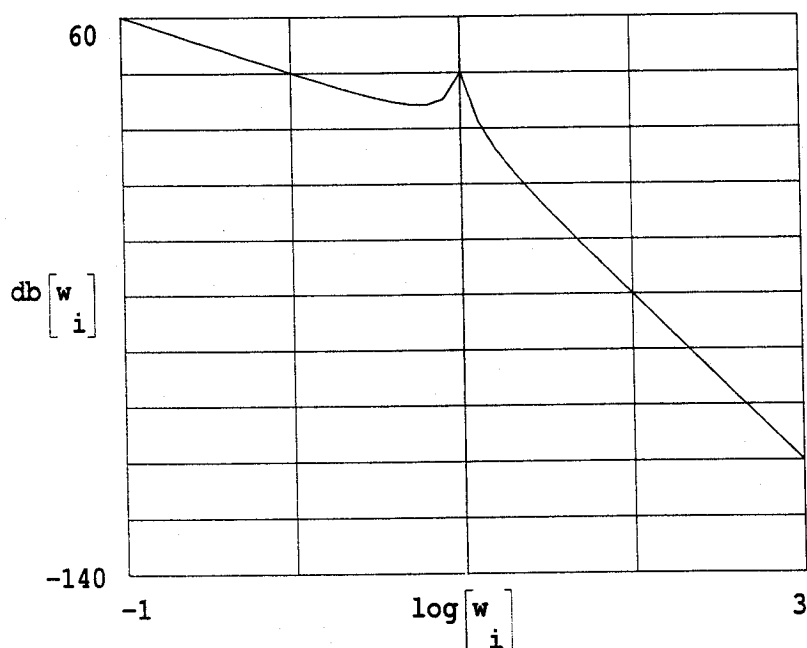

FIGURE 4
- 4(a) Describe Bode's asymptotic method for determining the frequency response of a control system. What approximations are used? What is meant by the term "corner frequency". Explain also how phase and gain margin can be read from the Bode plot. (10)
- (b) The graph shown in Figure 4 is a Bode magnitude response for a particular control system. Write down the transfer function and comment on the stability of the system. (10)
5. The system shown in Figure 4 is a simplified representation of a vehicle moving on a rough road. Displacement x is measured from the equilibrium position in the absence of input displacement. The stiffness and dashpot coefficient representing the suspension system are k and b , respectively.
- (a) Determine the transfer function relating output displacement (x) to input displacement (y). (8)
- (b) The surface of a road varies sinusoidally as shown. The amplitude and period are 0.05 m and 6 m respectively. If $m = 1200$ kg and $k = 400$ kN/m, determine the amplitude of the vehicle's displacement if the speed is 25 km/hr. Is there any particular speed which should be avoided? (12)